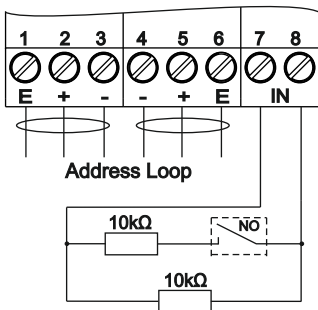

Fig. 3b - Check for short circuit of the input
- "Activated input" range (fig.3b)
Note: The line is balanced and checked for interruption. When is checking for short circuit -point t2, and compleat cheme fig. 3b , the panel monitor the input for short circuit.